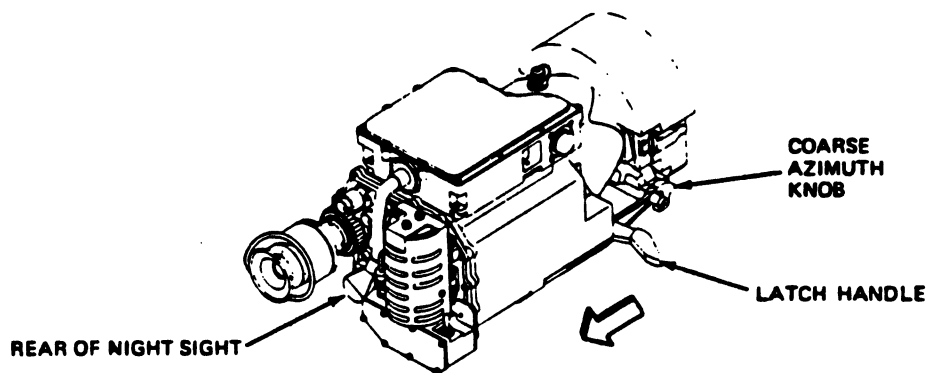

Fig 2-30. Night sight.
Step 1. Place the coarse azimuth knob in position No. 1 'forward position'. Move the latch handle toward the rear of the night sight to the unlock position 'direction of arrow' (fig 2-30).